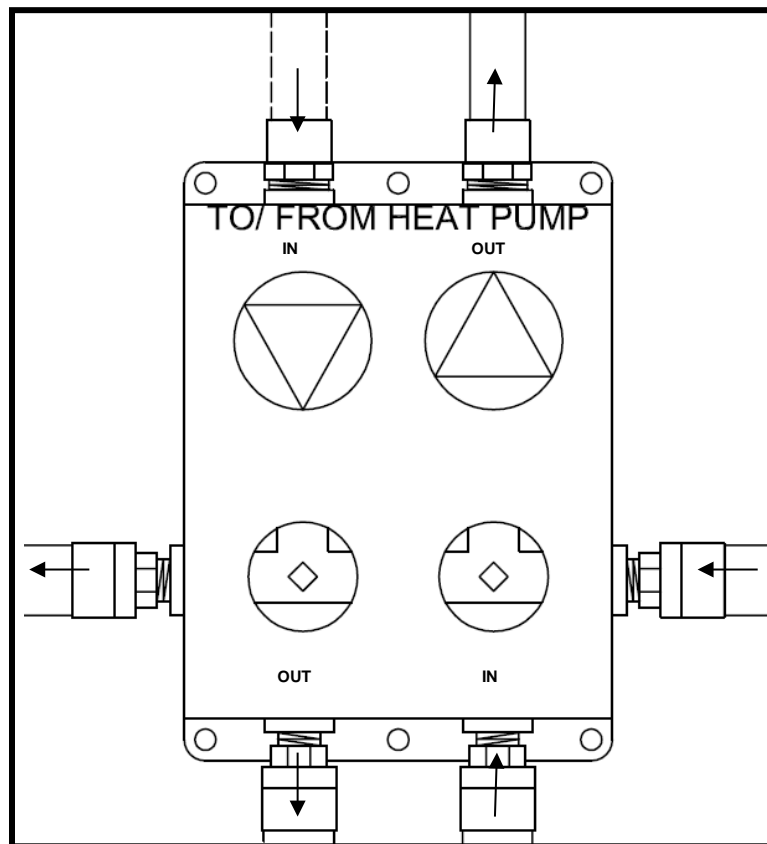

Figure 7 Three-way valve position for heat pump side flushing.
3.2.2.2 Rotate the three-way valves located on the pump module to isolate the distribution system, and gain access to only the heat pump side of the system (see Figure 7)
- 3.2.2.8 Rotate the three-way valve located on the supply side to the distribution system of the pump module to the normal operating position (see Figure 7).